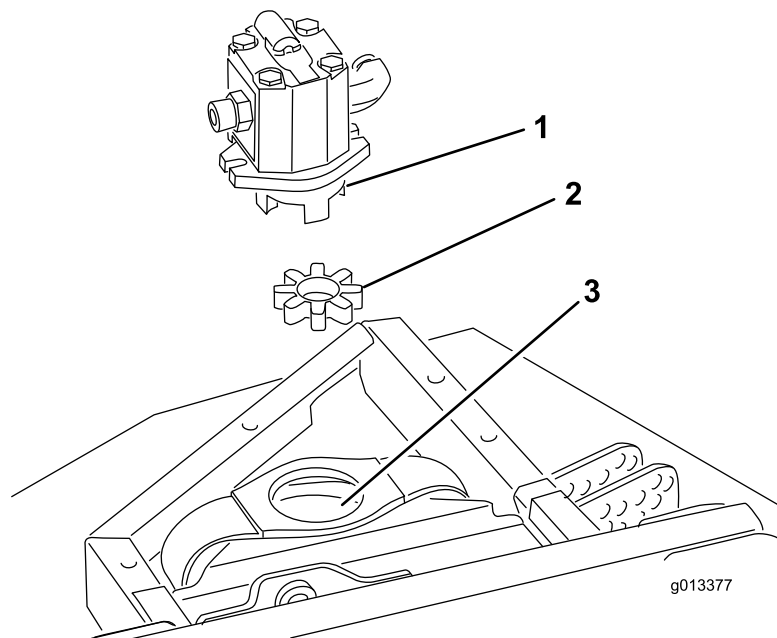

Figure 2
4. Remove the elastomeric spider from inside each pulley coupler. Inspect the elastomeric spider for wear and replace it if worn. Otherwise, retain for installing on the new deck (Figure 2).
Note: Inspect spider hub for wear and replace if it is worn (Figure 2).